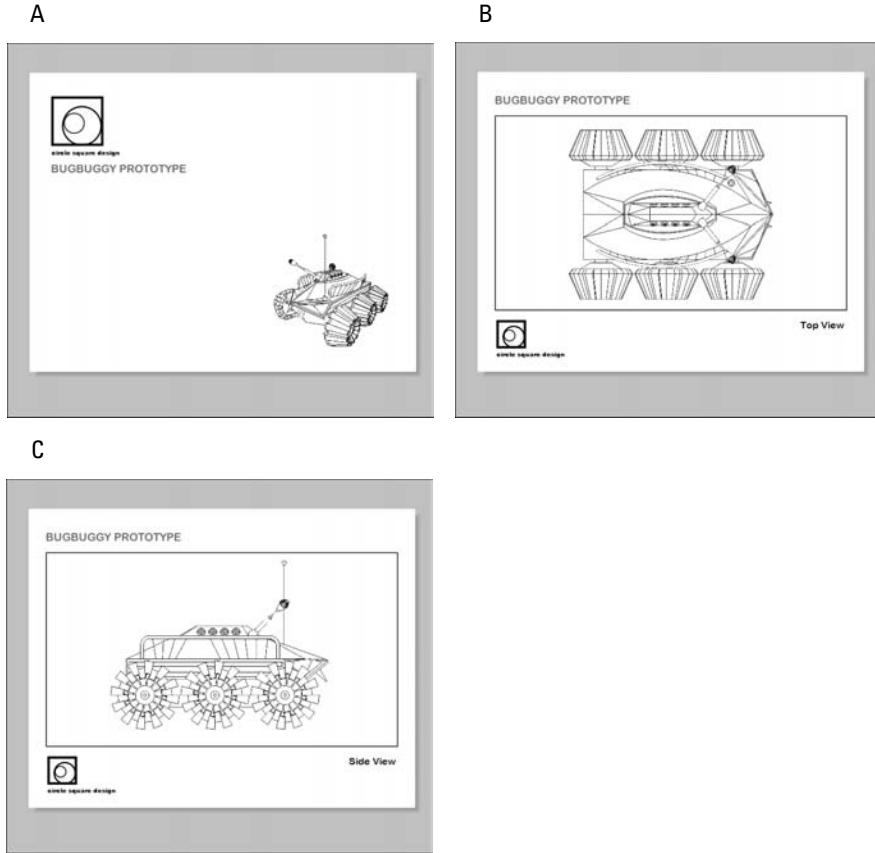
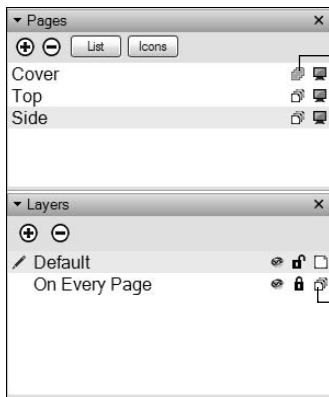

Figure 15-6: A simple document with two layers: one that's shared (master) and one that's not.
Figure 15-7: Click the Sharing icon to control master layers.
- ✔ **You can make an element (like a logo) appear in the same spot on more than one page by putting it on a master layer.** For example, the logo and the project title need to appear in the same spot on every page; I put these two elements on the master layer called “On Every Page.” In Figure 15-6, note how the logo and project title appear in exactly the same place in the pages labeled B and C.
- ✔ **You can make any layer a master layer by clicking the Sharing icon to the right of its name in the Layers dialog box. (See Figure 15-7.)**
- ✔ **You decide which pages should display master layers by toggling the Sharing icon to the right of their names in the Pages dialog box.** For example, I don't want the logo and the project title to be on the cover page (labeled A in Figure 15-6). I toggle the Show Master Layers icon beside the cover page to Off, as shown in Figure 15-7.